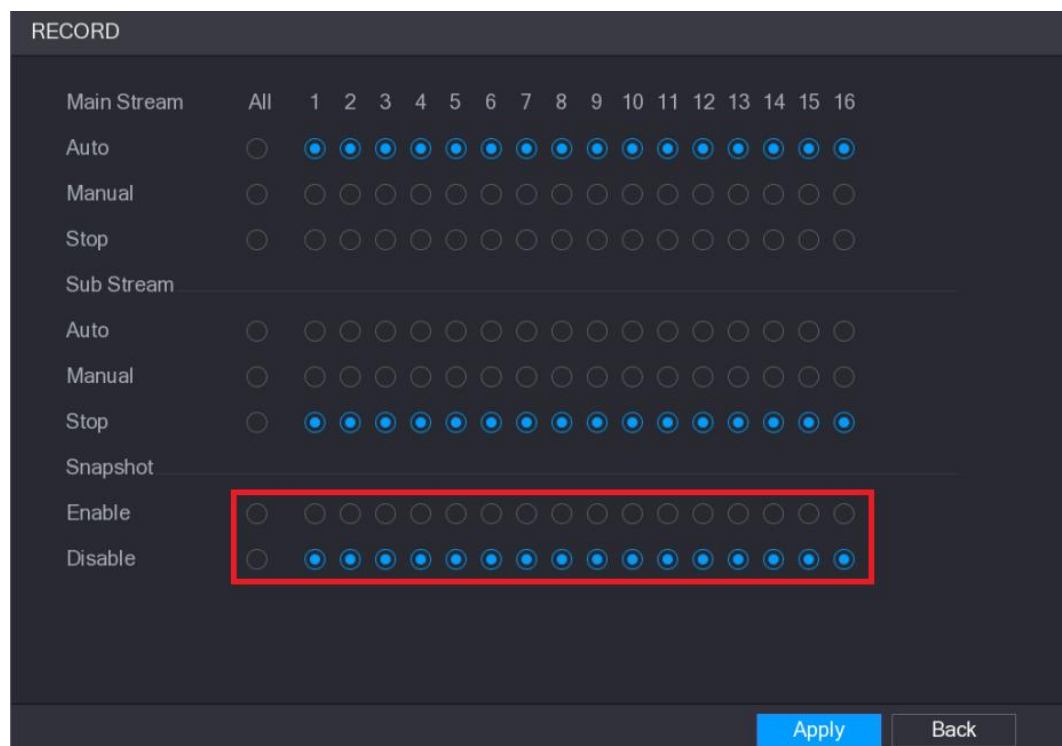

Figure 5-91
Step 3 In the **Snapshot** area, enable the snapshot for the channels if needed. See Figure 5-91.